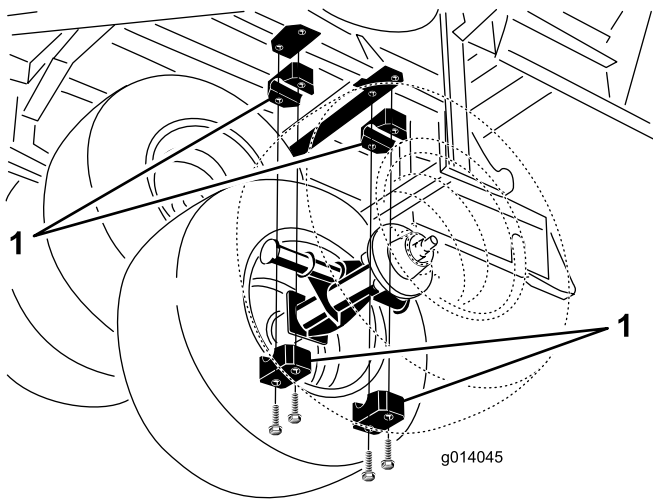

Figure 2
3. Remove the four nuts and bolts that go through the yellow bearing blocks and hold the axles onto the suspension on each side (Figure 2).